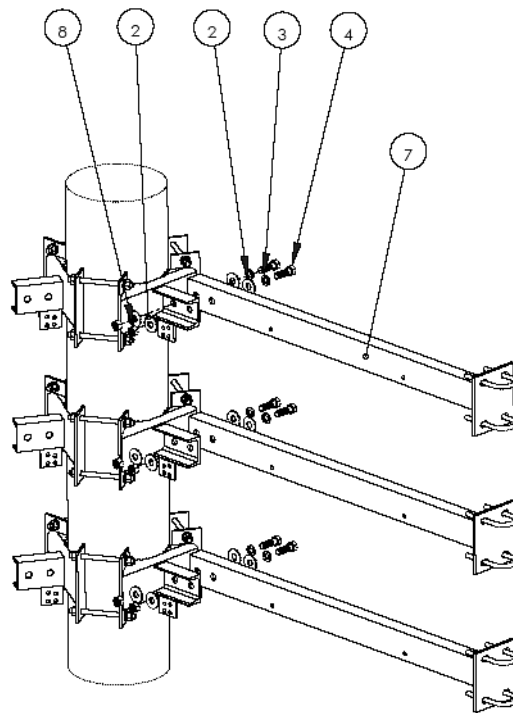

Figure C-15: Attaching Horizontal Arm to 3 Sector Monopole Clamp
- 1 Use the bolts, washers, spring washers and nuts as listed in Table C-4 to attach the 3 horizontal arms to the clamps as shown in Figure C-15.